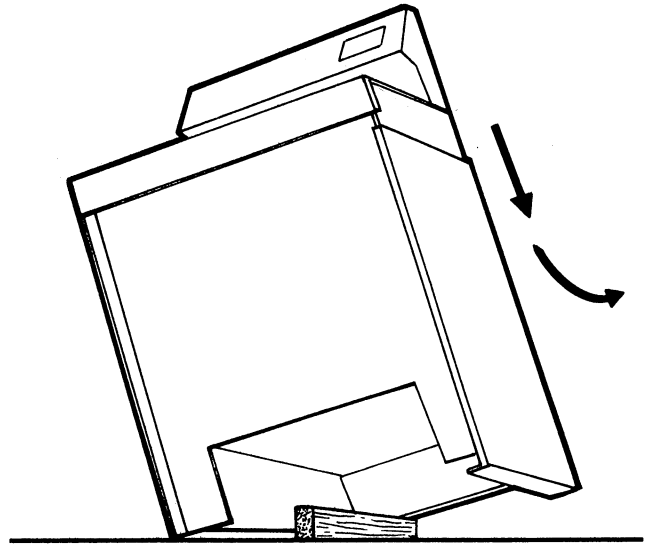

Figure E10
9. Slide the bodyside down until it disengages the control panel post and pull the bodyside from the range. (See Figure E10)